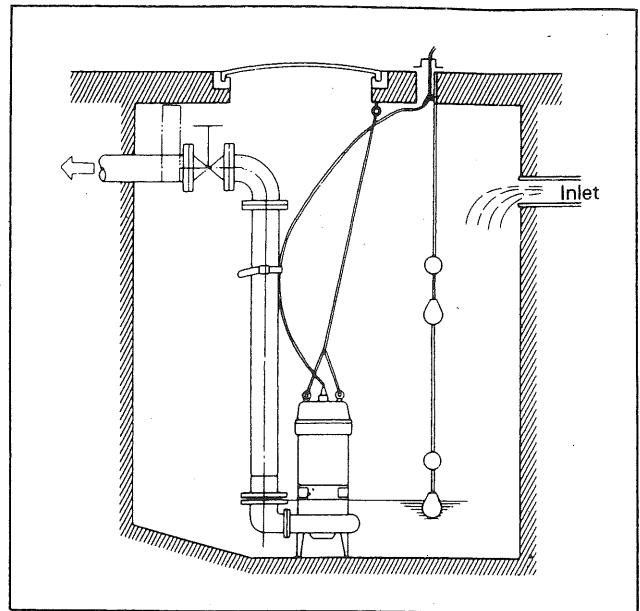

Fig. 1
(2) This pump must not be installed on its side or operated in a dry condition. Ensure that it is installed upright on a secure base.
(3) Install the pump at a location in the tank where there is the least turbulence.
(4) If there is a flow of liquid inside the tank, support the piping where appropriate. (See Fig. 1)
(5) Install piping so that air will not be entrapped.